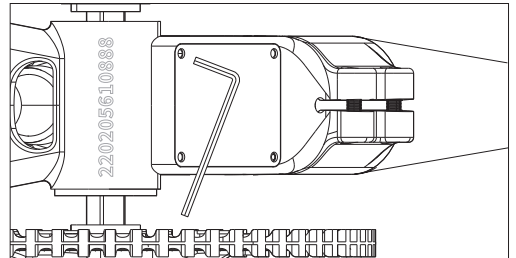

Figure 7-1
- a. Loosen the four screws on the cover next to the bottom bracket in a counterclockwise direction with a 3 mm Allen key, then remove the screws and the cover, as shown in **Figure 7-1**.